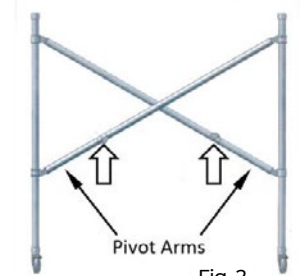

Fig. 2
Step 3: Push upwards on pivot arm hinges until both arms are straight and hinge locking mechanisms on each arm is engaged. (see Fig.2)